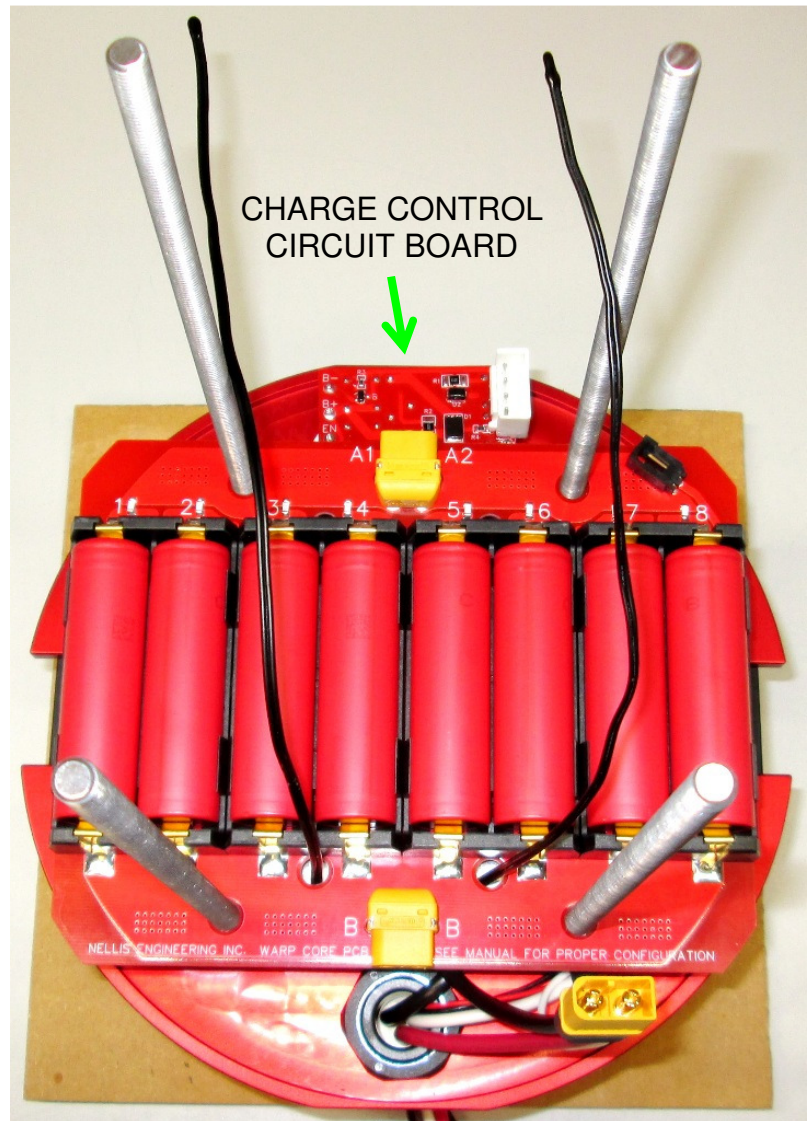

Figure 32
14. 9 of the 18 layers are numbered 1 through 9 with a label next to the small black 2 pin connector. The other 9 layers are unnumbered. Ensure 4 black plastic 3/4" (19mm) tall spacers are installed on the threaded rods contacting the red aluminum mounting plate and then install an UNNUMBERED layer onto the threaded rods first with the **A1 - A2** printed on the circuit board towards the Charge Control Circuit Board. Stop about half way down and feed the temperature sensors through the holes as shown in Figure 32 before lowering it all the way to the bottom.